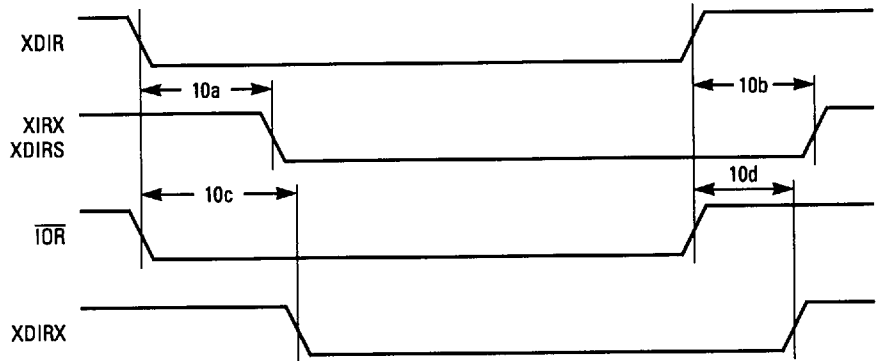

Figure 5.4
- Figure 5.4, "IDE Interface Timing"